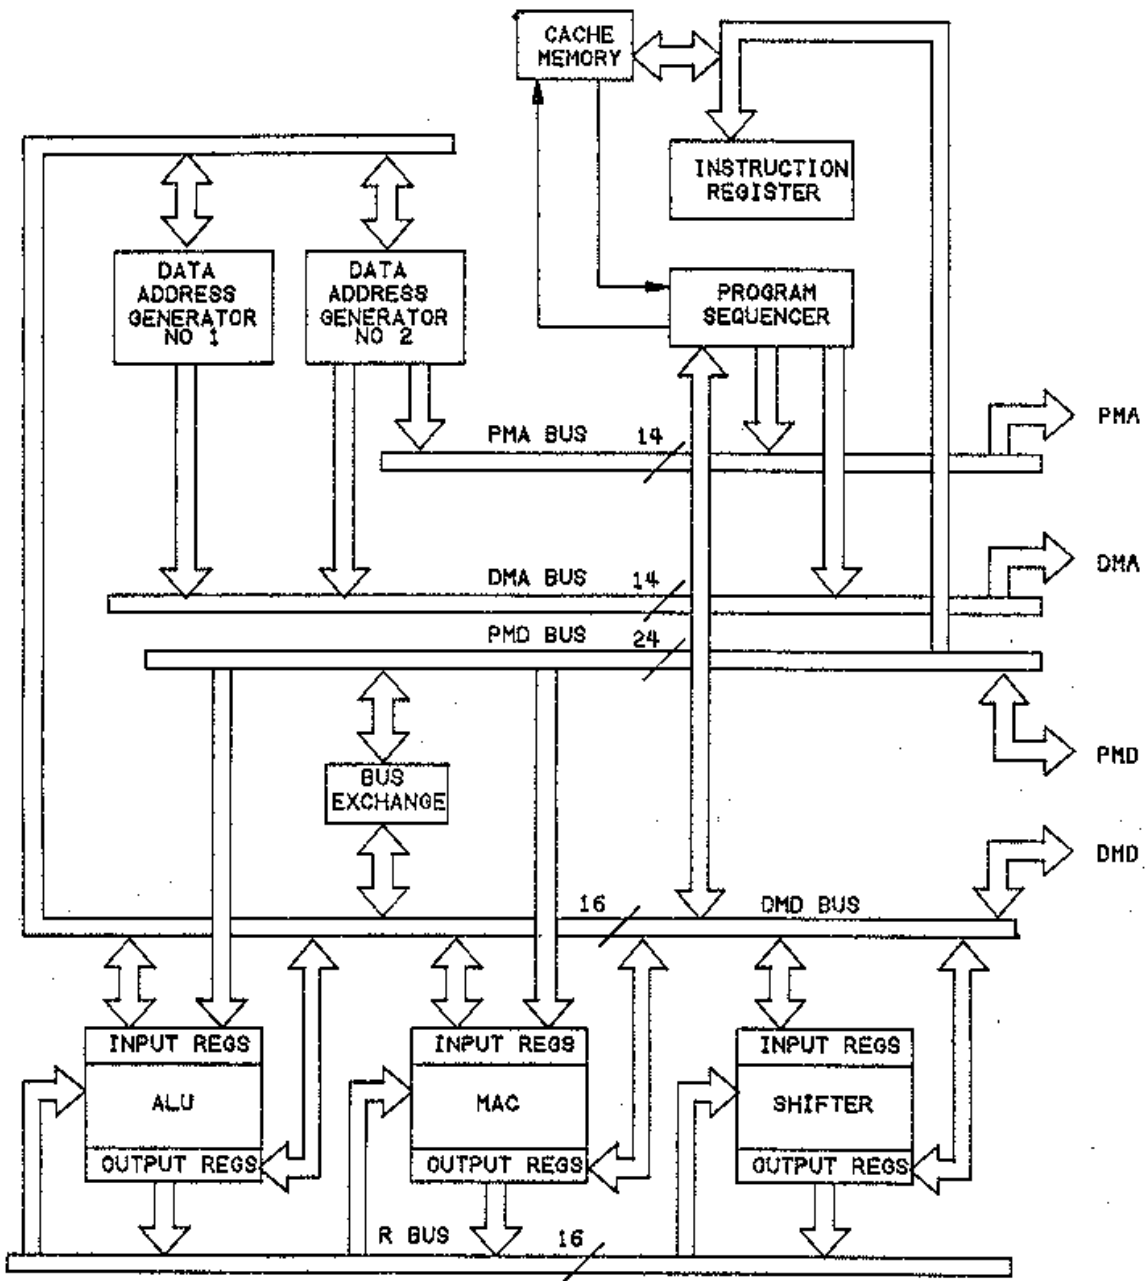

FIGURE 2. Block diagram.
3.2.2 Block diagram. The block diagram shall be as specified on figure 2.